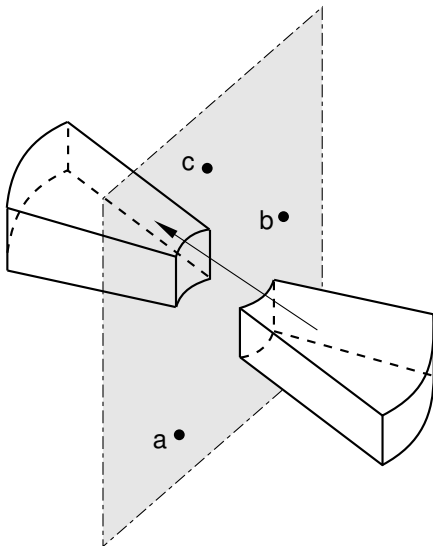

Figure 2: Matrix subassembly reflection. Points a , b , and c cannot be collinear.
2. Global X-coordinate of point *a* in the plane of reflection (see Figure 2).